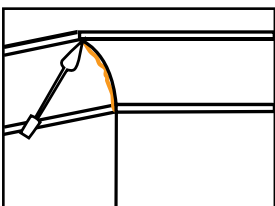

FIGURE 66
- Straight stop along cornice edge at wall and ceiling and finish mitres using a small cornice tool [Figure 66]